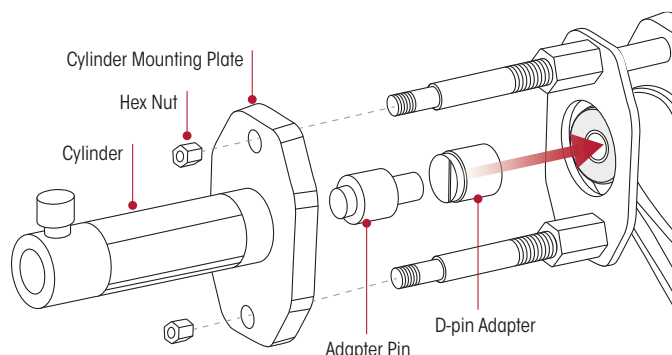

Figure 82: Attached Cylinder to Mounting Plate
9. Thread the cylinder into the cylinder mounting plate. Refer Figure 82.